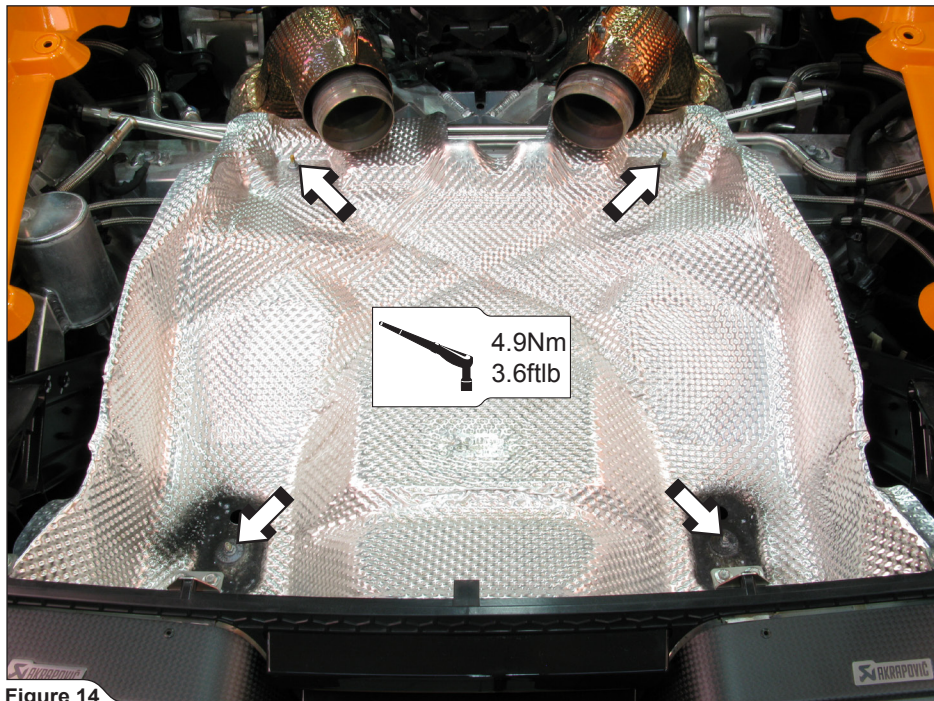

Figure 14
4. Reinstall the he lower heat shield (**Figure 14**).